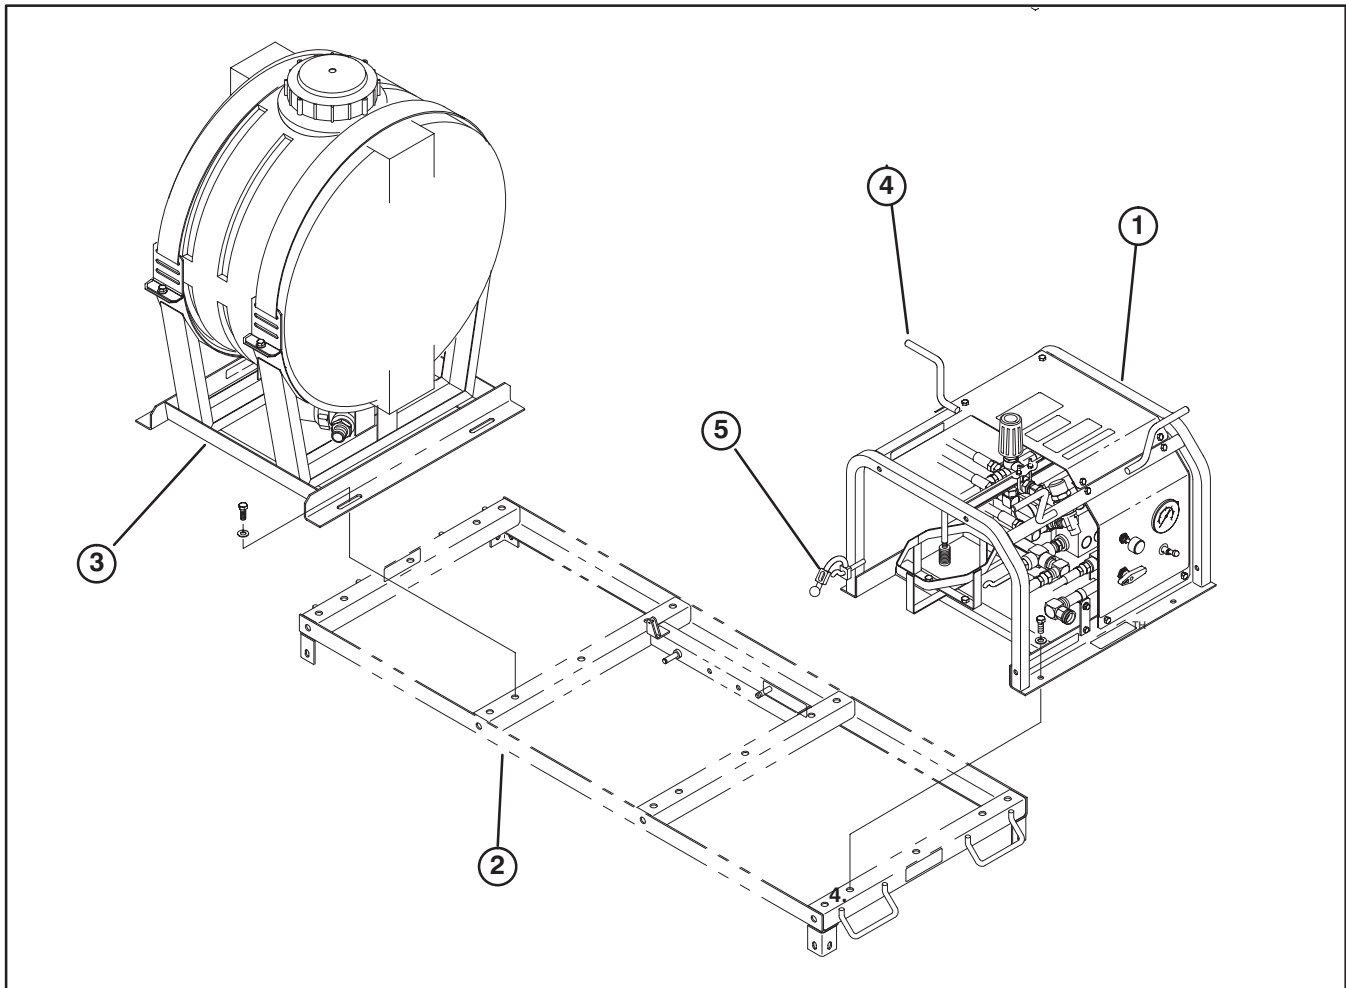

Figure 1
1. Position pressure washer pump assembly onto power platform aligning frame mounting holes with holes in platform (Fig. 1).
3. Install belt around pressure washer pulley and power platform jackshaft pulley (Fig. 1).
4. Secure pressure washer assembly frame to platform with (4) 3/8–16 x 1" lg. capscrews and flatwashers (Fig. 1).
5. Loosen (4) capscrews securing pump base to pressure washer frame. Tension belt by adjusting nut on tensioner. Belt should deflect 1/2" when 10 lb. of force is applied to belt midway between the jackshaft pulley and pump flywheel. Tighten capscrews securing pump to frame.
6. Position pressure washer tank assembly onto power platform aligning frame mounting holes with holes in platform (Fig. 1).
7. Secure pressure washer tank assembly frame to platform with (4) 3/8–16 x 1" lg. capscrews and flatwashers (Fig. 1).
11. When not using pressure washer, secure spray gun to pressure washer frame with (2) rubber hold downs and wind hose around the (3) storage hooks.